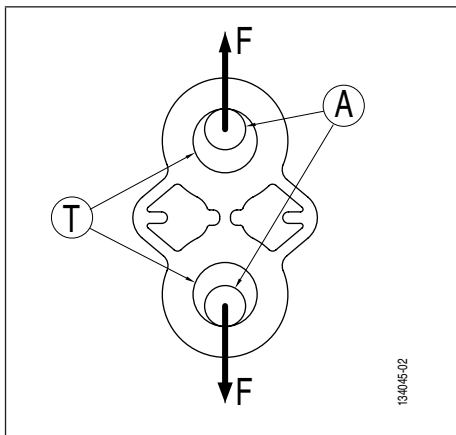
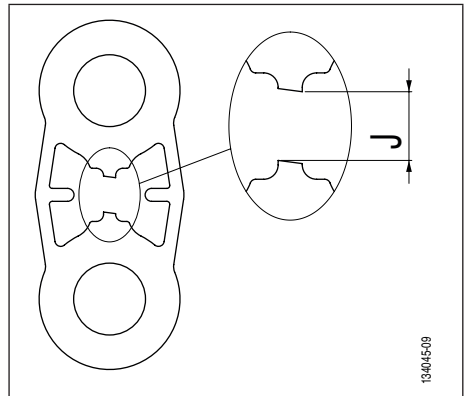

Fig. 2
Fig. 7
A full range of TA test plates has been developed in order to test anchor points in traction. The plate fastening holes (*Fig. 2, page 4, item T*) are designed to receive high-strength bow shackles.
- Loading of the TA test plate (*Fig. 2, page 4*).
2. Check that the TA test plate is correctly secured (Fig. 2, page 4 and Fig. 7, page 6).
! DANGER: The maximum clearance 'J' (Fig. 7, clearance J) must not exceed 15 mm.
2. On shearing of the 'S' control section of the TA test plate (*Fig. 7*), the operator must immediately stop his action on the loading device. Failure to do so may result in total shearing of the plate.
8. Continue loading of the TA test plate after the 'S' control section (see 5.2. *Test procedure, Fig. 7*) has sheared.